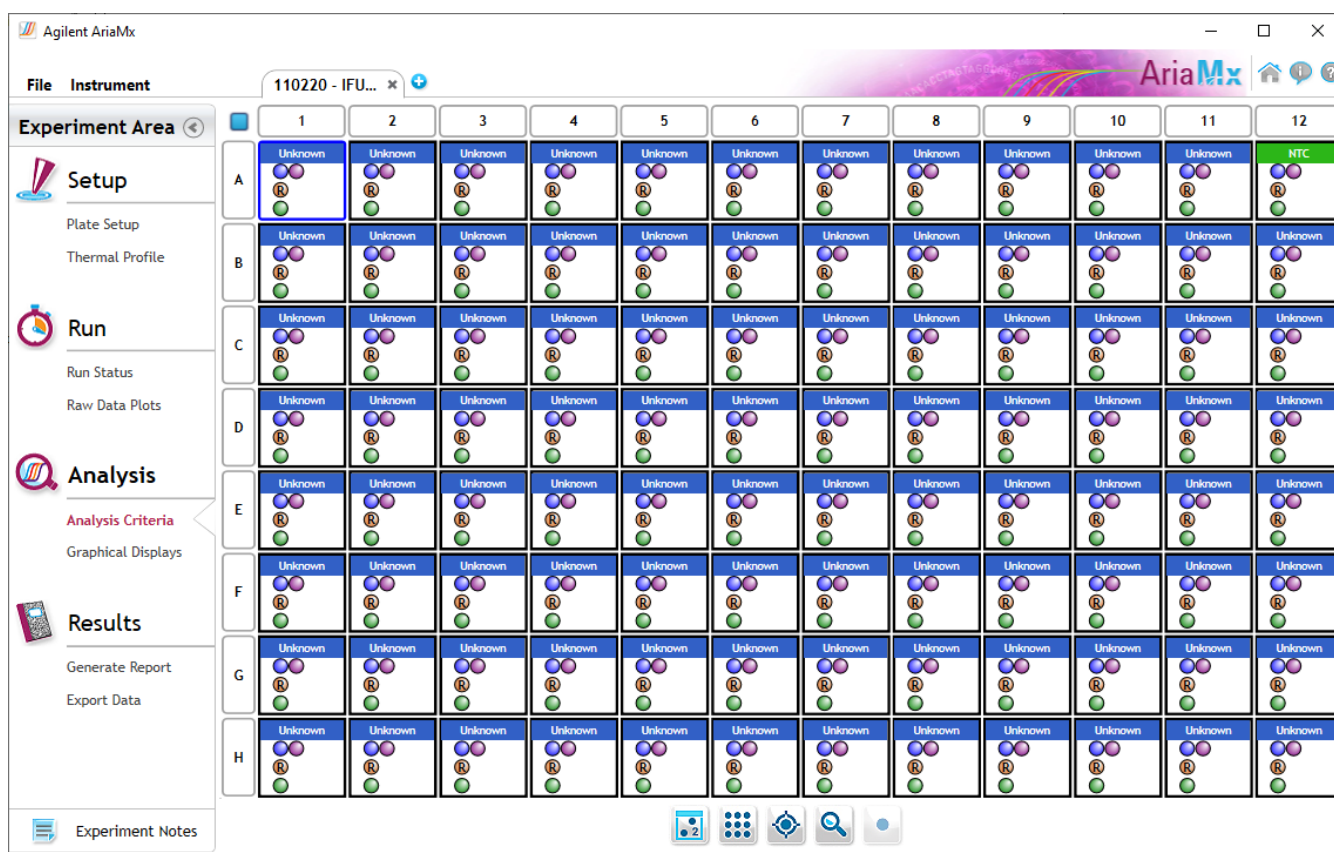

Figure 19 Aria Analysis Criteria screen
- 3 Make sure that all wells, well types, and targets are selected for analysis, as shown in **Figure 19**.